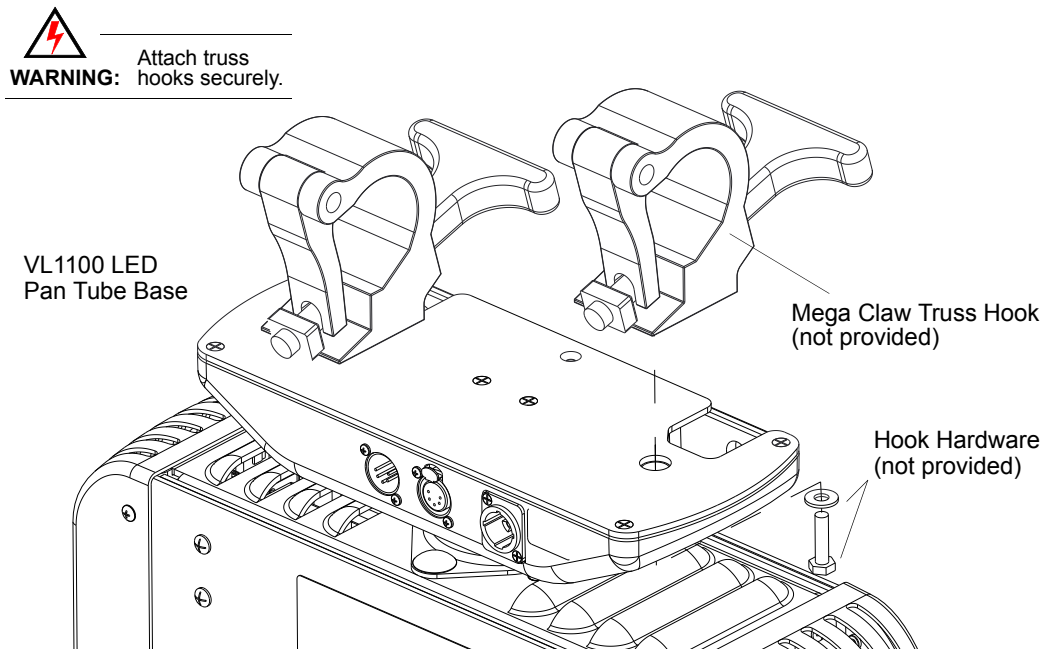

Figure 2-3: Example VL1100 Luminaire Truss Hook Installation
- Step 1. At pan tube base, attach two truss hooks as shown below (Figure 2-3).